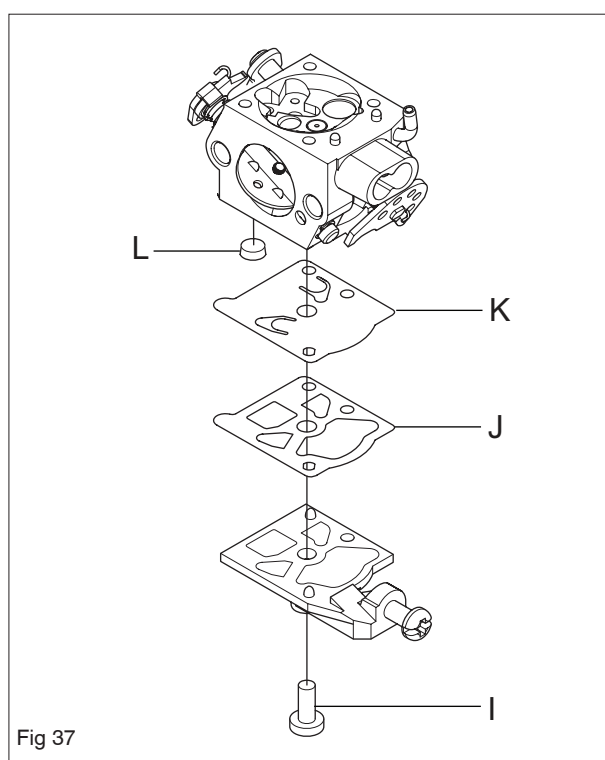

Fig 37
Remove screw (I) and remove gasket (J) and diaphragm (K). See figure 37.
Use a needle or similar device and carefully pull up the fuel screen (L). See figure 37.